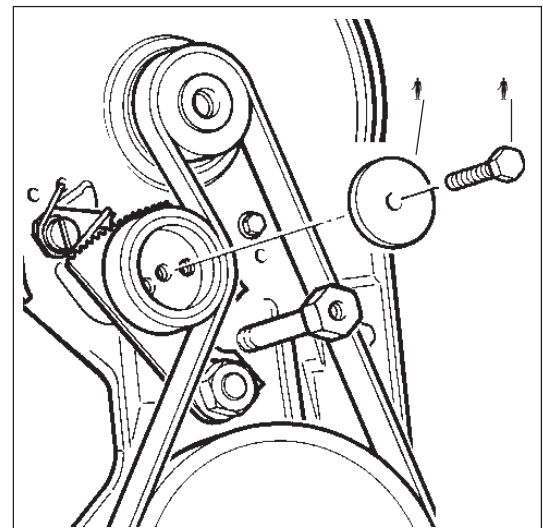

Fig. V3-1c
- f) Screw in hexagon head bolt (item 1) with washer (item 2). Tightening torque: 23 Nm Fig. V3-1c